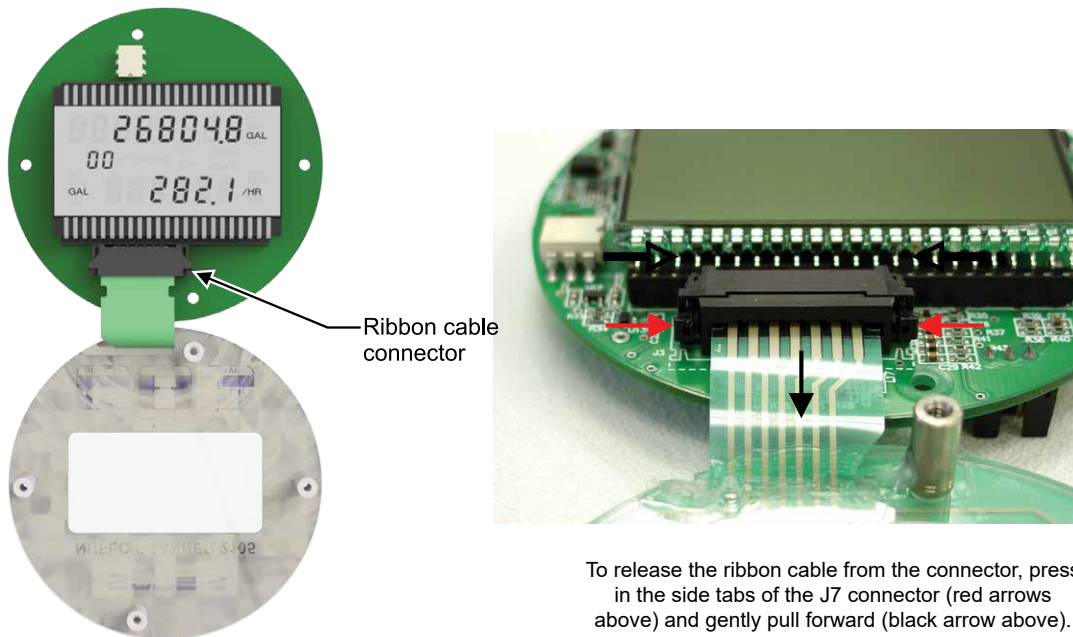

Figure 5.7 - Keypad ribbon cable connector showing location of removal clips
11. Remove the keypad ribbon cable from the J7 connector on the LCD side of the circuit board by pressing in on the sides of the black plastic clip and pulling gently on the clip. Do not pull on the ribbon cable; the cable will release freely when the clip opens (Figure 5.7, pg. 90).
- a. Grasp the black clip between the thumb and forefinger (Figure 5.7, pg. 90).